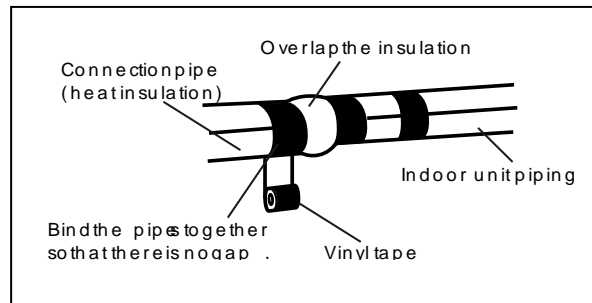

Figure 15
7. Line sets must have each tube insulated separately, including their unions with at least 1/4" thick insulation. Wrap the refrigeration tubing, drain hose, and electrical cables with a UV protected vinyl tape. Overlap insulation at all refrigeration joints per Figure 15.